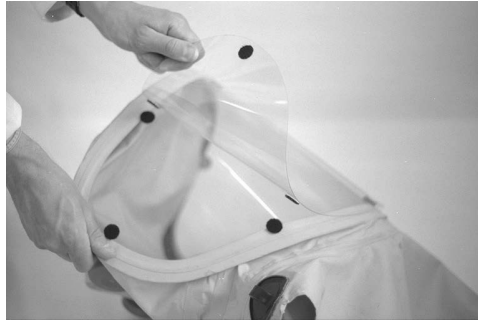

Fig. 8.
5. Wrap the removable visor around each side of the rigid visor lining up all the fixing discs and firmly press together (Fig. 8).